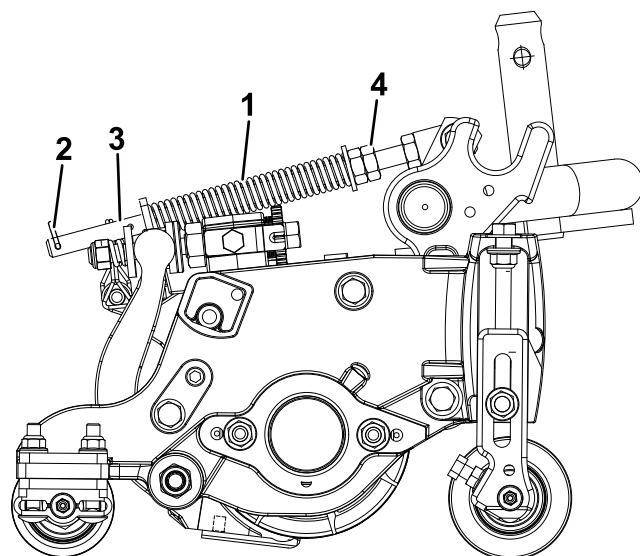

Figure 14
The turf compensation spring (Figure 14) transfers weight from the front to the rear roller. This helps to reduce a wave pattern in the turf, also known as marcelling or bobbing.
6. Make sure that the hairpin cotter is installed in the rear hole in the spring rod (Figure 14).
7. Tighten the hex nuts on the front end of the spring rod until the compressed length of the spring (Figure 14) is 12.7 cm (5 inches) for 5-inch cutting units and 15.8 cm (6-1/4 inches) for 7-inch cutting units.